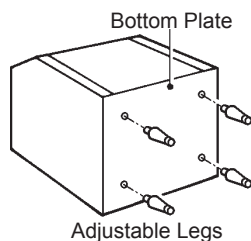

Fig. 3
- 1) Fully screw in the four legs provided (bin accessory) into the Storage Bin underside. See Fig. 3.